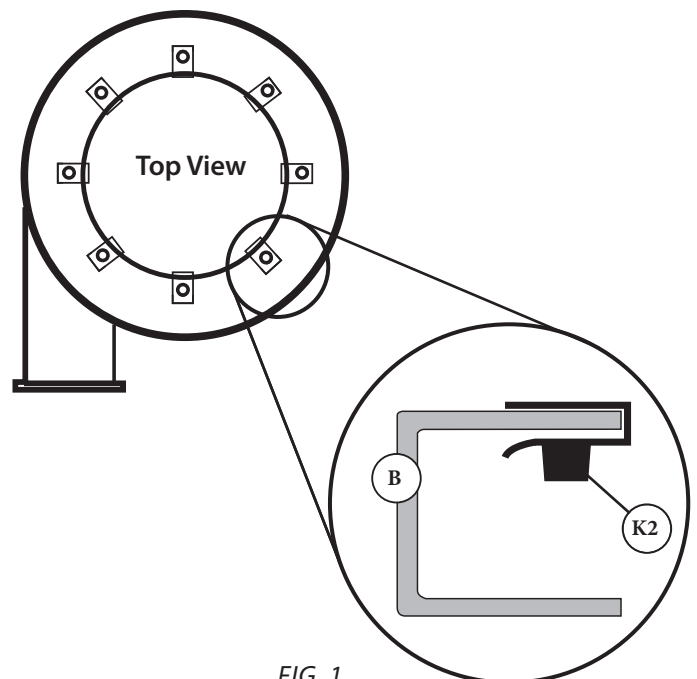

FIG. 1
- 1 Orient the Fan Housing (B) so that the molded “UP” text is visible and facing towards you. Push the U-Spring Nuts (K2) onto each of the holes lining the inside circle of the Fan Housing, making sure that the U-Spring Nuts align into the bolt holes of the housing. [FIG. 1]